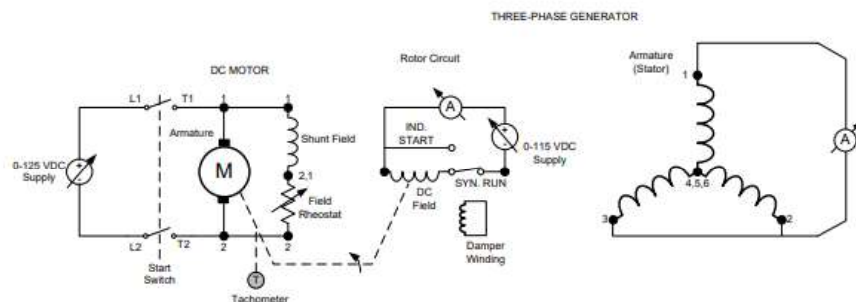

Fig. 10. Experiment setting for the short circuit test
1. With all supplies off (knobs turned to zero) and the console off, short the stator terminals 1, 2, and 3. Short terminals 1 and 2 through an ac ammeter. The circuit diagram is as in fig. 10.